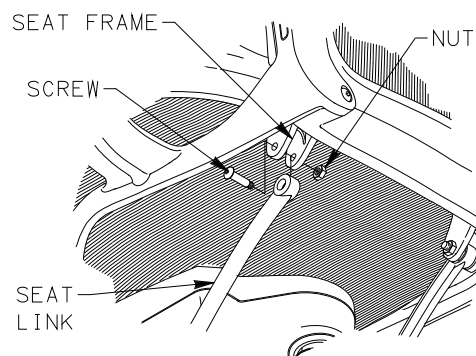

FIGURE 1
19. ATTACH SEAT LINK TO SEAT FRAME WITH SCREW AND NUT. TIGHTEN NUT UNTIL FLUSH WITH END OF SCREW. REPEAT FOR OPPOSITE SIDE. NOTE: SEAT LINKS IN OLDER CHAIRS HAVE SPACER AND BUSHINGS. MAKE CERTAIN SPACER AND ALL BUSHINGS ARE ACCOUNTED FOR AND BUSHES ARE ORIENTED TO NOTCH IN SEAT LINK. WHILE HOLDING BUSHINGS IN SEAT LINK, ATTACH SEAT LINK TO SEAT FRAME WITH SCREW, SPACER AND NUT. TIGHTEN NUT UNTIL FLUSH WITH END OF SCREW. REPEAT FOR OPPOSITE SIDE. SEE FIGURES 1 AND 2.